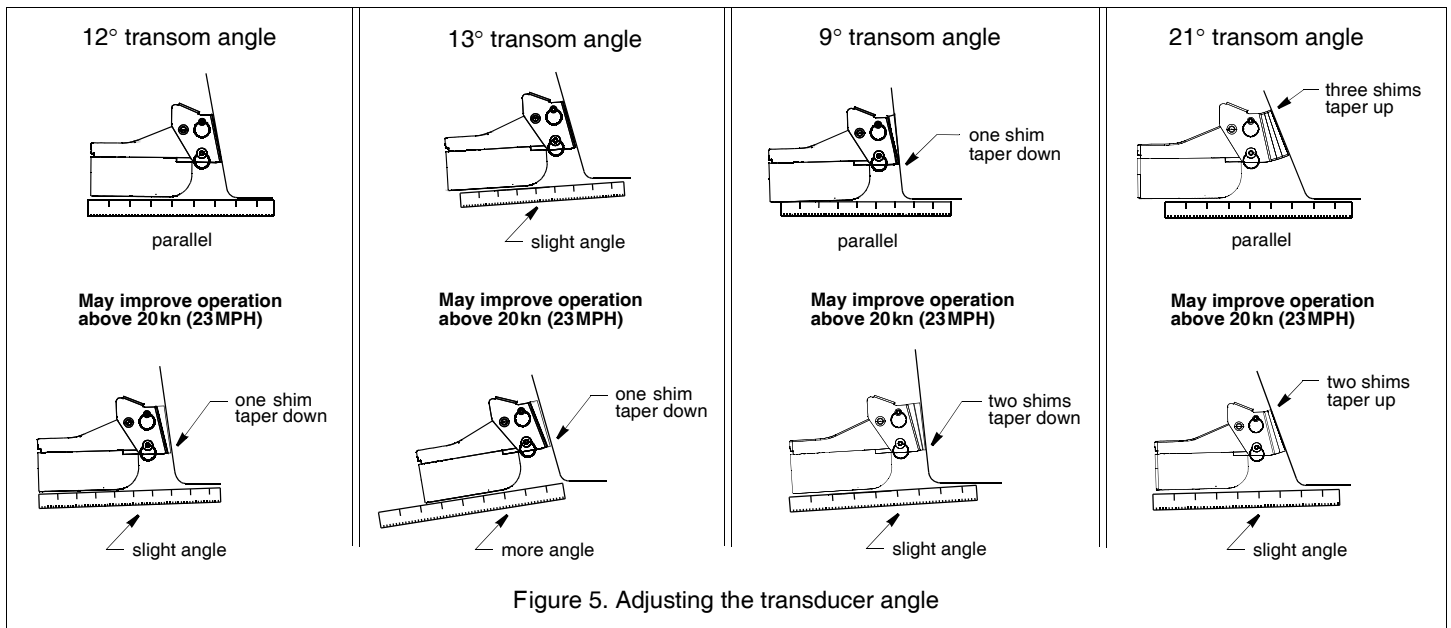

Figure 5. Adjusting the transducer angle
4. With the transducer in the operational position, Use a straight edge to sight the underside of the transducer relative to the underside of the hull (Figure 5). The trailing edge of the transducer should be 1–6mm (1/16–1/4") below the leading edge.
- a. Increase the transducer's angle in the water. Review "Compensating for Transom Angle: Shims" and Figure 5.